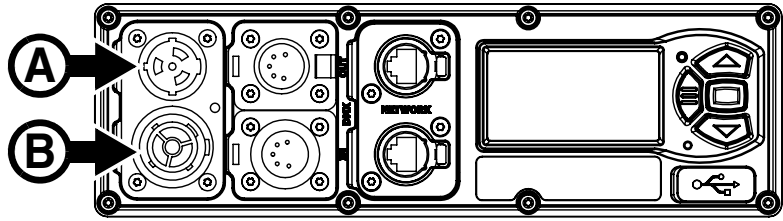

Figure 8: Mains power connections
1. See Figure 8. Line up the keys in the power input cable connector with the keyways in the MAINS IN socket (A). Insert the connector into the socket and twist clockwise to engage. If the connector seems difficult to twist, remove it from the socket, check that you have lined up the keyways correctly and try again
If you obtain a 16/20 A-rated power input cable and 16/20 A-rated power relay cables from Martin (your Martin supplier can give details of these), you can relay mains power from one fixture to another by connecting fixtures to power in a linked daisy-chain, MAINS THRU socket (B in Figure 8) to MAINS IN socket (A in Figure 8) If you create a daisy-chain link like this, you must respect the safety limits given in the Safety Precautions chapter at the beginning of this manual, or you may create a risk of fire and electric shock.